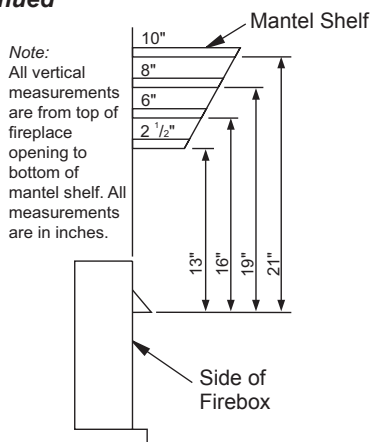

Figure 10 - Minimum Mantel Clearances for Built-In Installation
C. For mantel clearances, see Figure 10 on page 12.
Built-in installation of this fireplace involves installing fireplace into a framed-in enclosure. This makes the front of fireplace flush with wall. An optional trim kit accessory is available (see Accessories, page 35). Trim will extend past sides of fireplace approximately 1/2". This will cover the rough edges of the wall opening. If installing a built-in mantel above the fireplace, you must follow the clearances shown in Figure 10, page 12. Follow the instructions below to install the fireplace in this manner.
NOTICE: If your installation does not meet the minimum clearances shown in Figure 10, you must do one of the following: